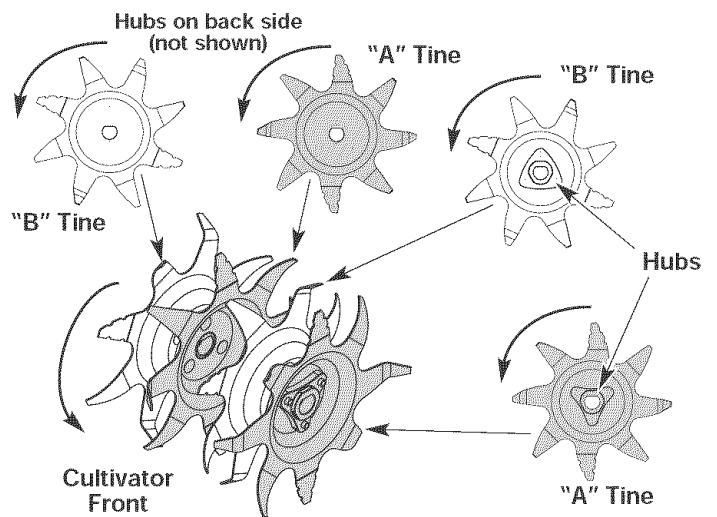

Fig. 12b
- When you are reinstalling tines, lay out the tines and compare them to those shown in Figure 12b. Note specifics about each tine: its hub, curvature and lettering ("A" or "B"). This will help make sure that you are placing the correct tines in the correct order.
NOTE: If you look closely, you can see a slight curvature in the tine tips. These curves should point toward the front of the cultivator when the tines are installed. Figure 12b shows the curve in each tine.